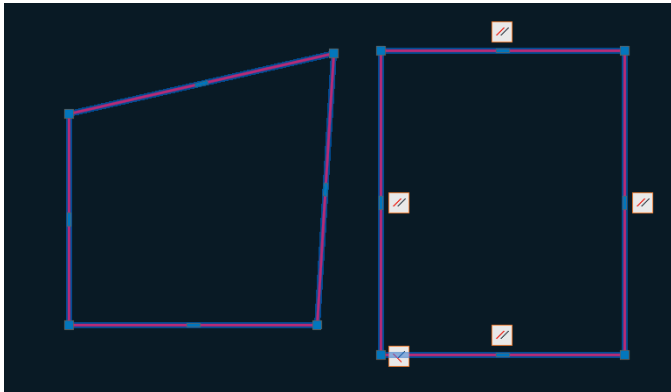

FIGURE 12.2 Stretching constrained geometry limits the types of transformation that can occur.
5. Select both rectangles with a crossing selection window. Hover the cursor over the upper-right grip of the left rectangle, select Stretch Vertex from the grip menu that appears, and stretch it up and to the right so that the rectangle deforms. Hover the cursor over the upper-right grip of the right rectangle, select Stretch Vertex from the grip menu, stretch it up and to the right, and click to set its new location. The rectangle remains a rectangle because of the constraints (see Figure 12.2). Press Esc to deselect.